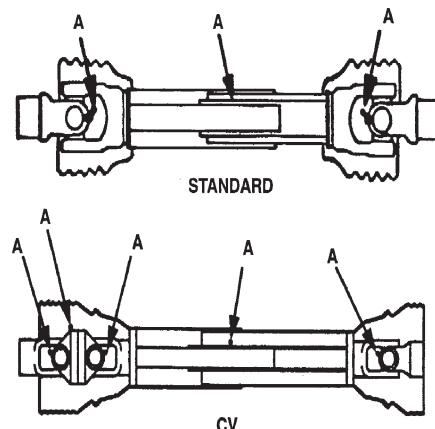
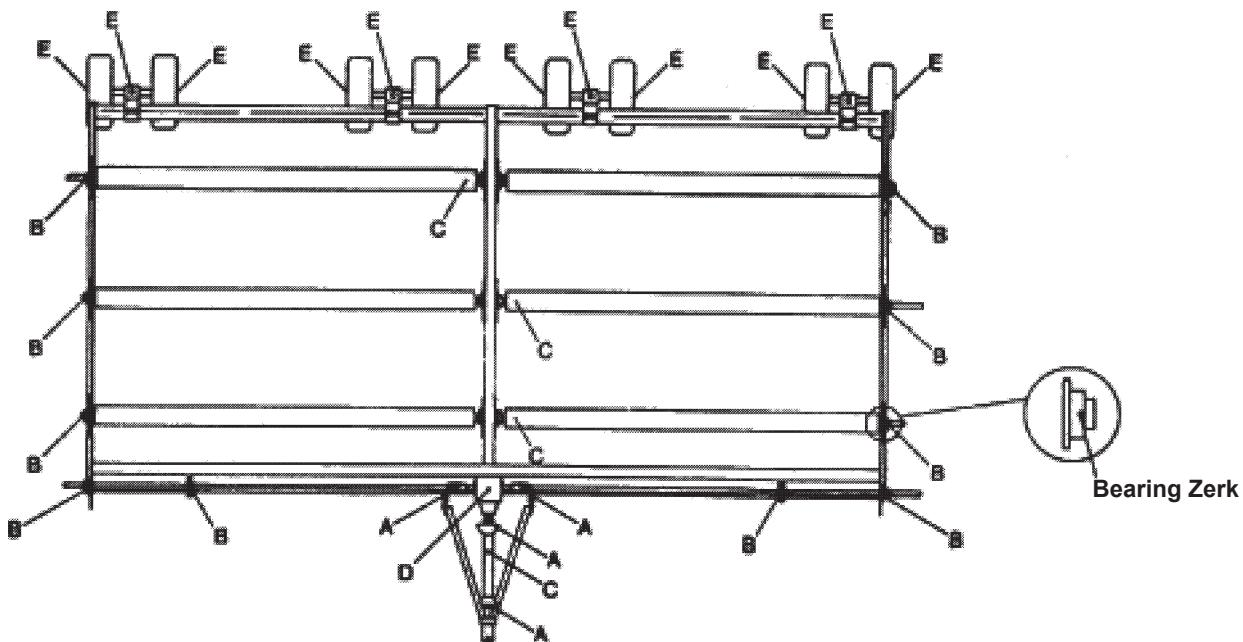

Figure 22. Driveline
Figure 24. Lubrication Diagram
The period recommended is based on normal operating conditions. Severe or unusual conditions may require more frequent lubrication or oil changes. Refer to Figure 24 for details.
1. Lubricate PTO driveline, position A, Figure 22 and Figure 24.